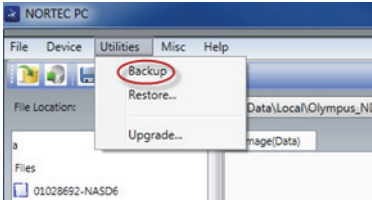

Figure 6-29 The Backup command
3. On the NORTEC PC software **Utilities** menu, select **Backup** (see Figure 6-29 on page 331).